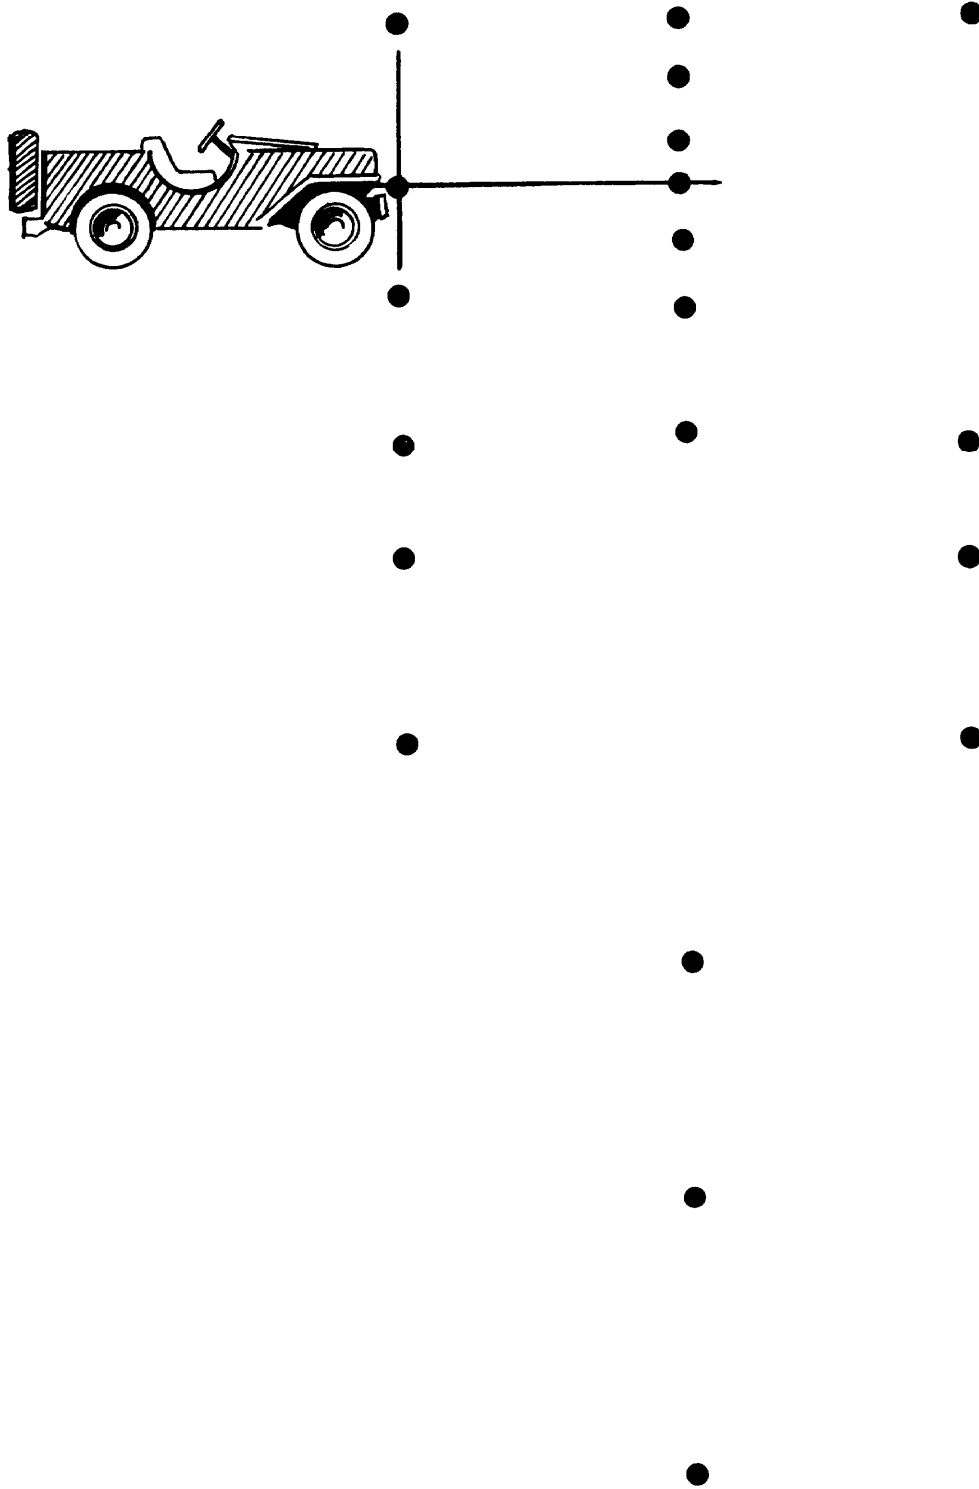

Figure 16. Aiming for leads, caliber .50 machinegun.
- (3) Aiming with leads. The average speed of a moving vehicle at night, under blackout conditions, is considered to be 5 miles per hour; therefore, a 5-mil lead right and left of center is provided on the Sight reticle. To engage a target moving directly across the gunner's front, place the lead dot corresponding to the range on the leading edge of the vehicle. In figure 16 the vehicle was determined to be at a